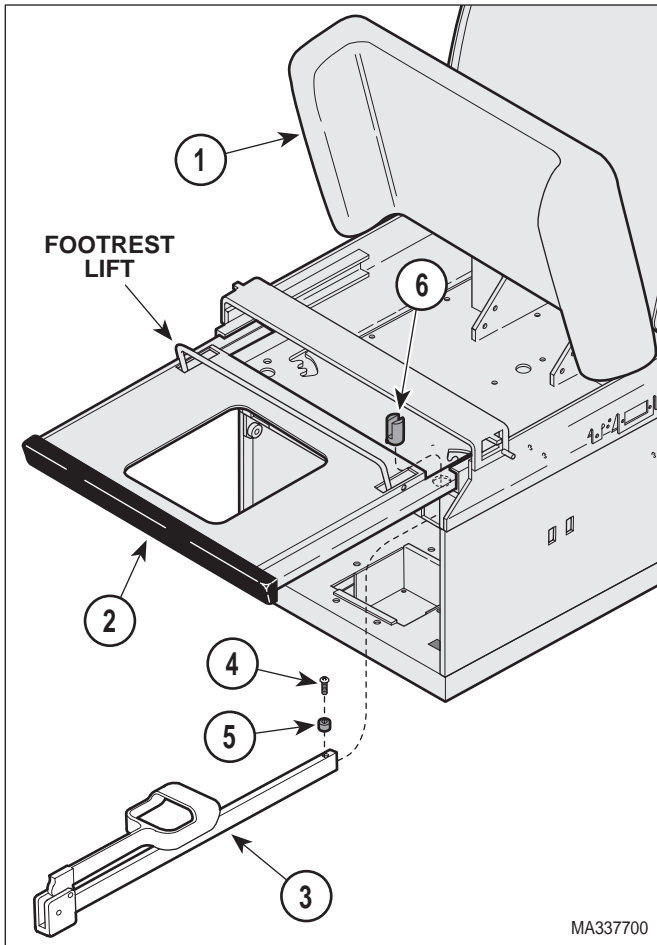

Figure 4-30. Stirrup Components Removal / Installation (early units)
- (1) Raise seat section (1, Figure 4-30) up.
- (2) Pull foot rest section (2) out all the way.
- (3) Pull stirrup (3) out far enough to access screw (4).
- (4) Remove screw (4) and spacer (5) from stirrup (3).
- (5) Pull stirrup (3) out of pivot boss (6).